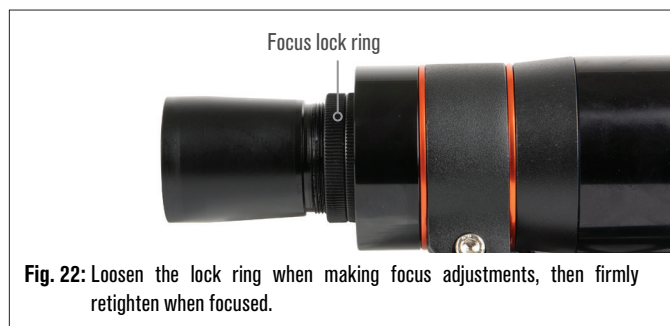

Fig. 22: Loosen the lock ring when making focus adjustments, then firmly retighten when focused.
4. Loosen the focus lock ring (Fig. 22).